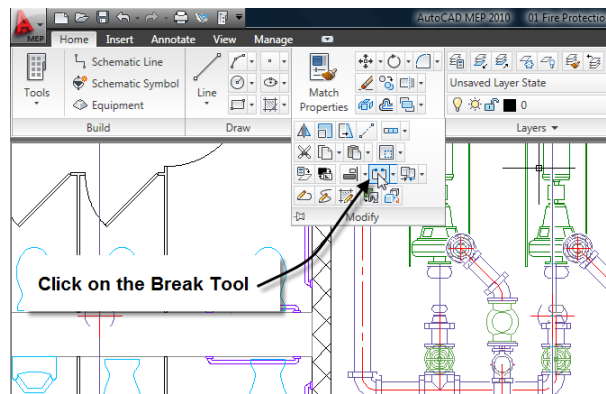

Figure 6.53
6. Click the Break tool (see Figure 6.53).